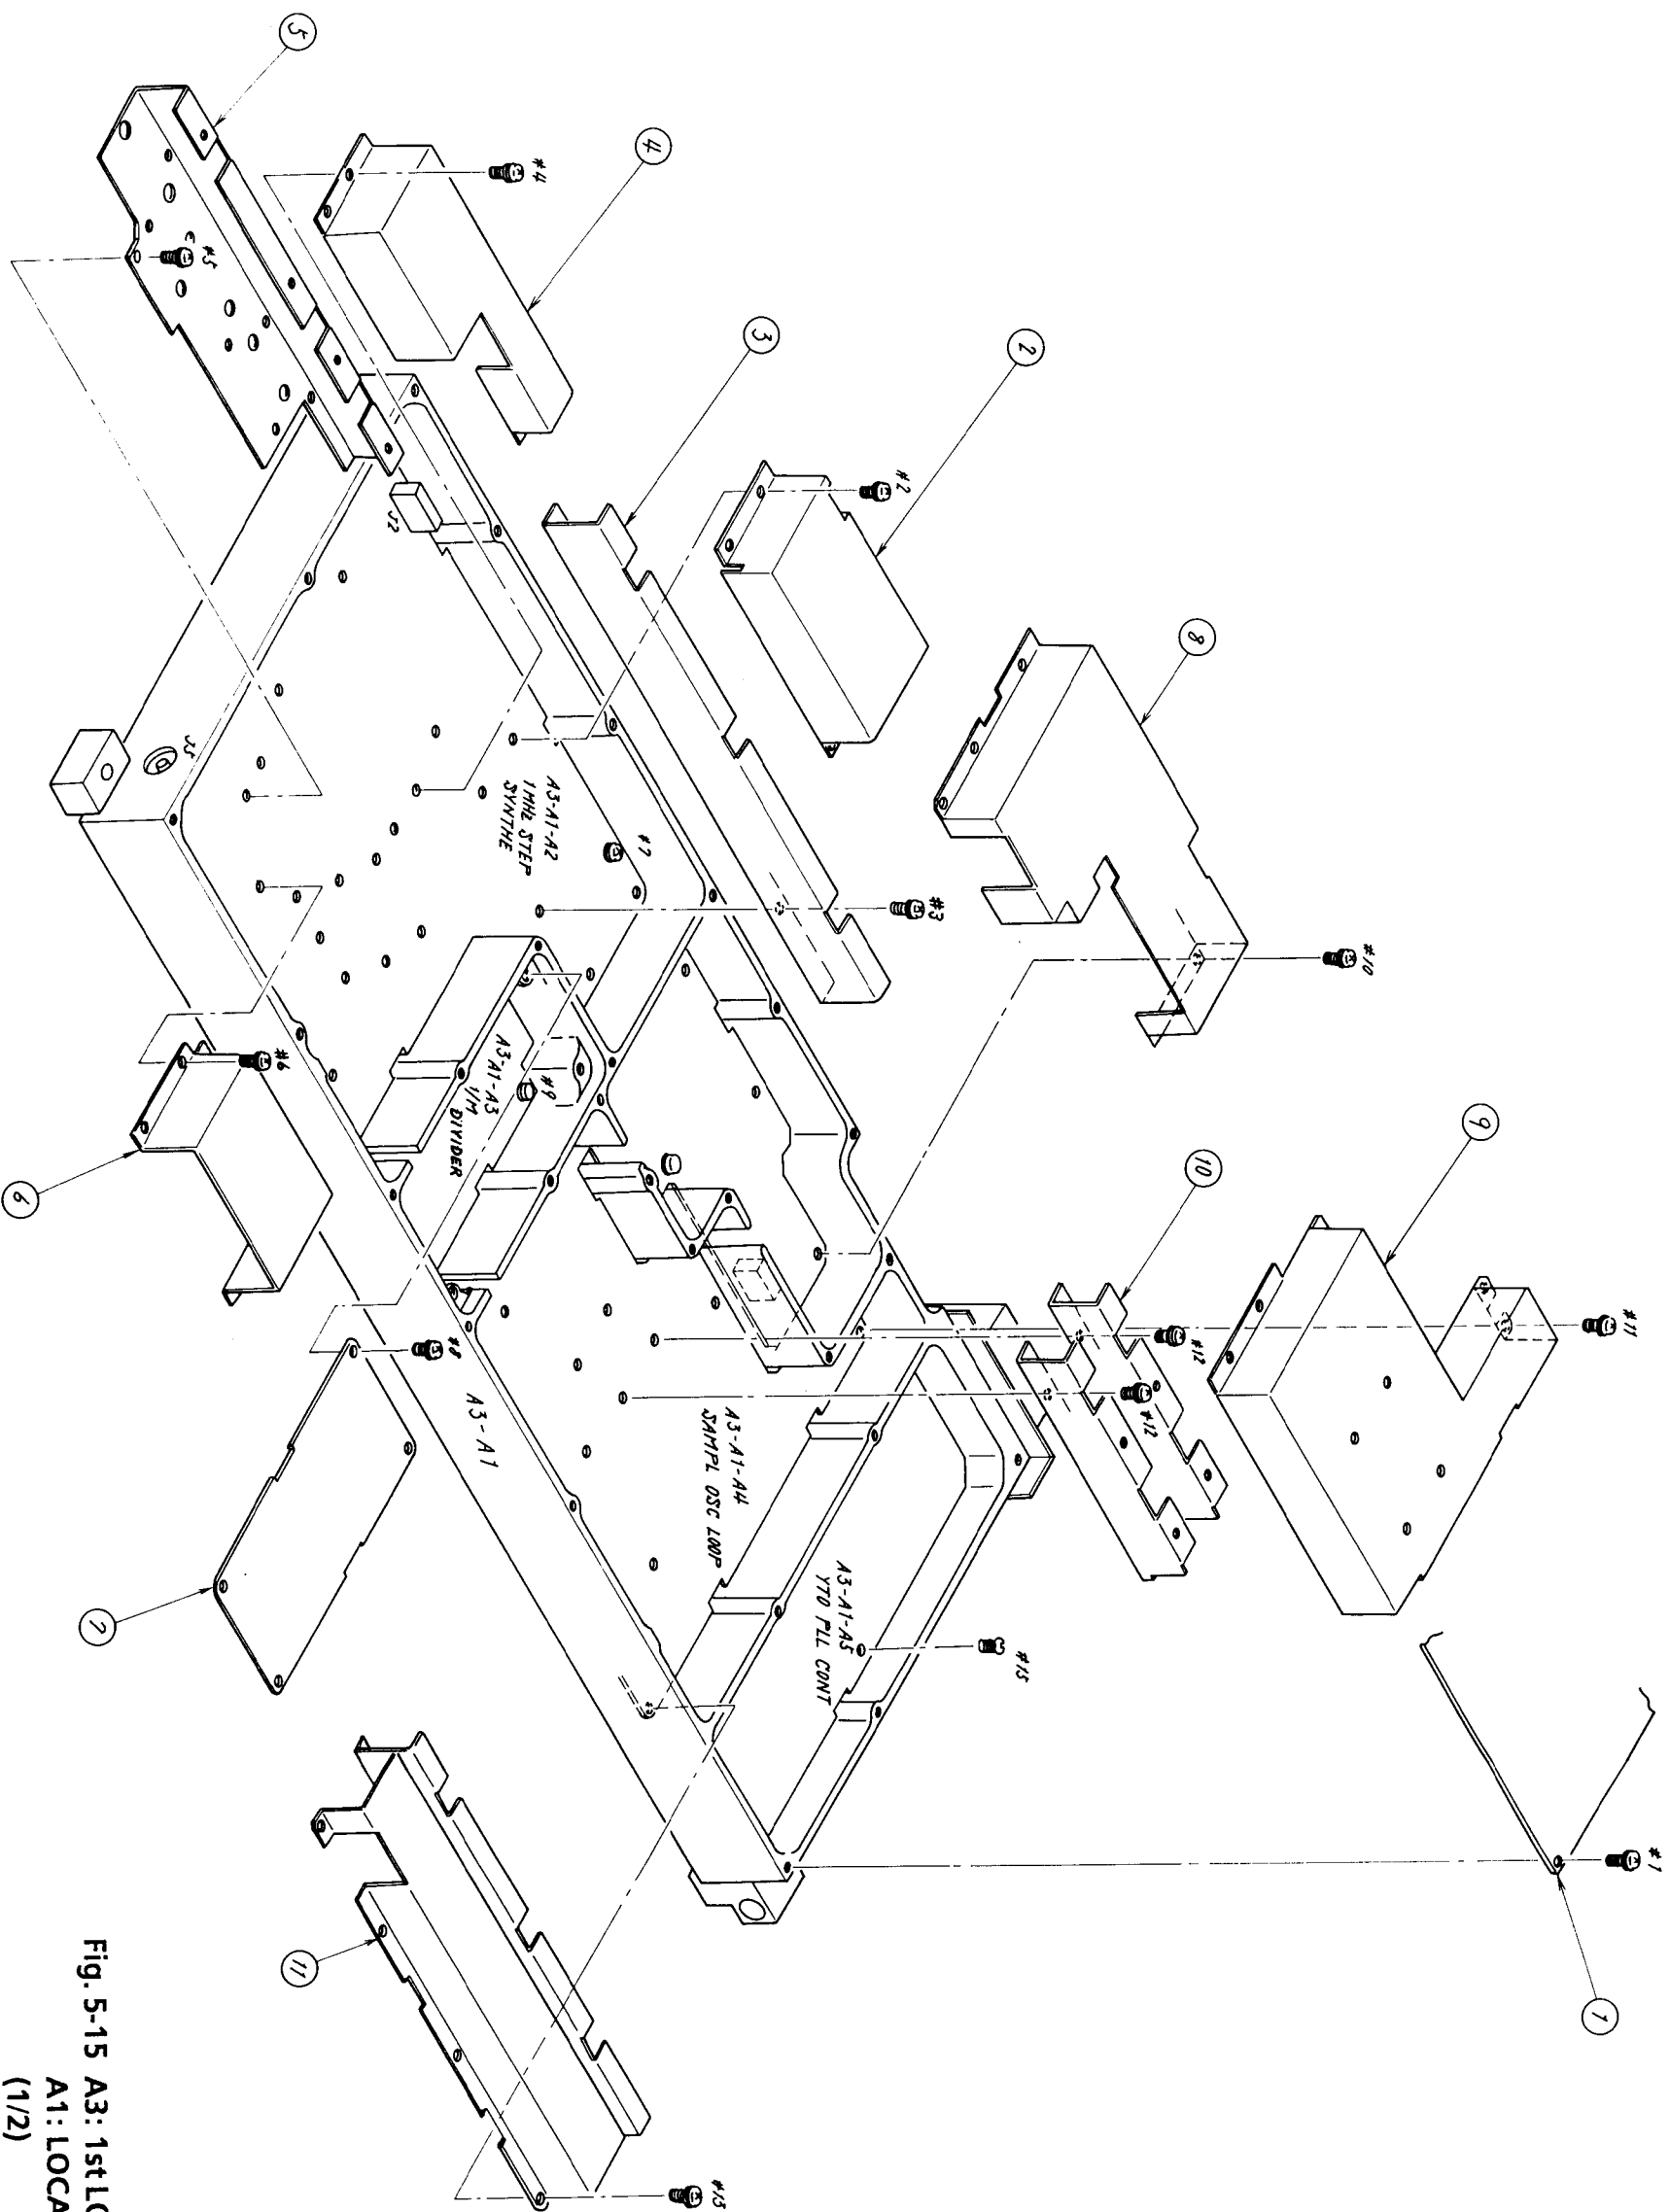

Fig. 5-15 A3: 1st LOCAL UNIT-
(2) A3-A1: LOCAL UNIT (1) (Figs. 5-15 and 5-16)
Remove 45 screws #1 and cover ① (Fig. 5-15).
(a) Removing A3-A1-A2: 1 MHz STEP SYNTH (Fig. 5-15)
(b) Removing A3-A1-A3: 1/M DIVIDER (Fig. 5-15)
(c) Removing A3-A1-A4: SAMPL OSC LOOP (Fig. 5-15)
(d) Removing A3-A1-A5: YTO PLL CONT (Fig. 5-15)